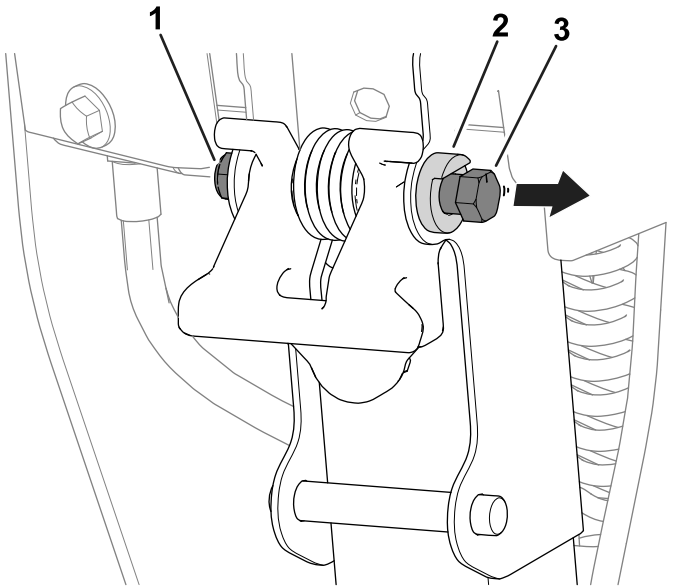

Figure 6
1. Loosen the nut on the latch bolt so that the bolt head can move freely just beyond the pivot stop (Figure 6).
3. Tighten the nut on the latch bolt (Figure 6) so that the new bolt position is secured against the pivot stop.